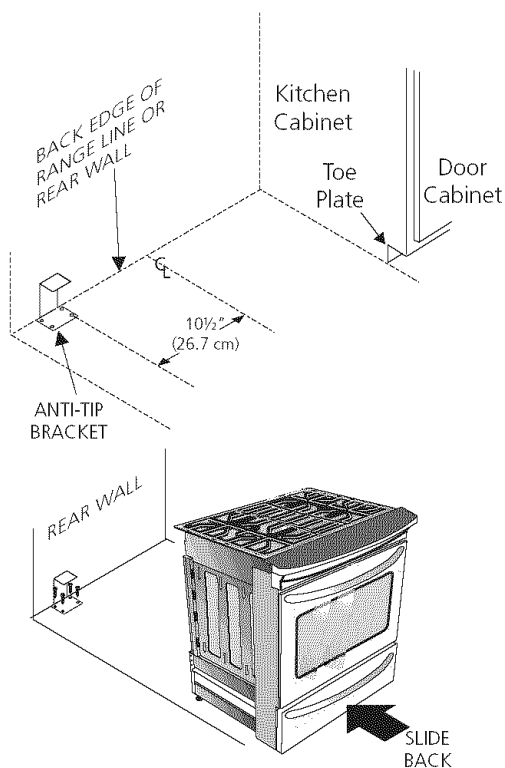

Figure 17
1. Draw a center line (CL) on the floor where the range should be installed. Also draw a line on the floor at the range back position if there is no wall.
2. Unfold paper template and place it flat on the floor positioned exactly on the intersection of the center and back lines you just drew before. (Use the diagram below to locate brackets if template is not available (Figure 17)).
6. Slide range into place making sure rear center leg is trapped by the anti-tip bracket (Figure 17). Lower the range by adjusting the leveling legs and leveling device until the underside of the cooktop is sitting leveled on the countertop. Refer to "Leveling the Range" section.